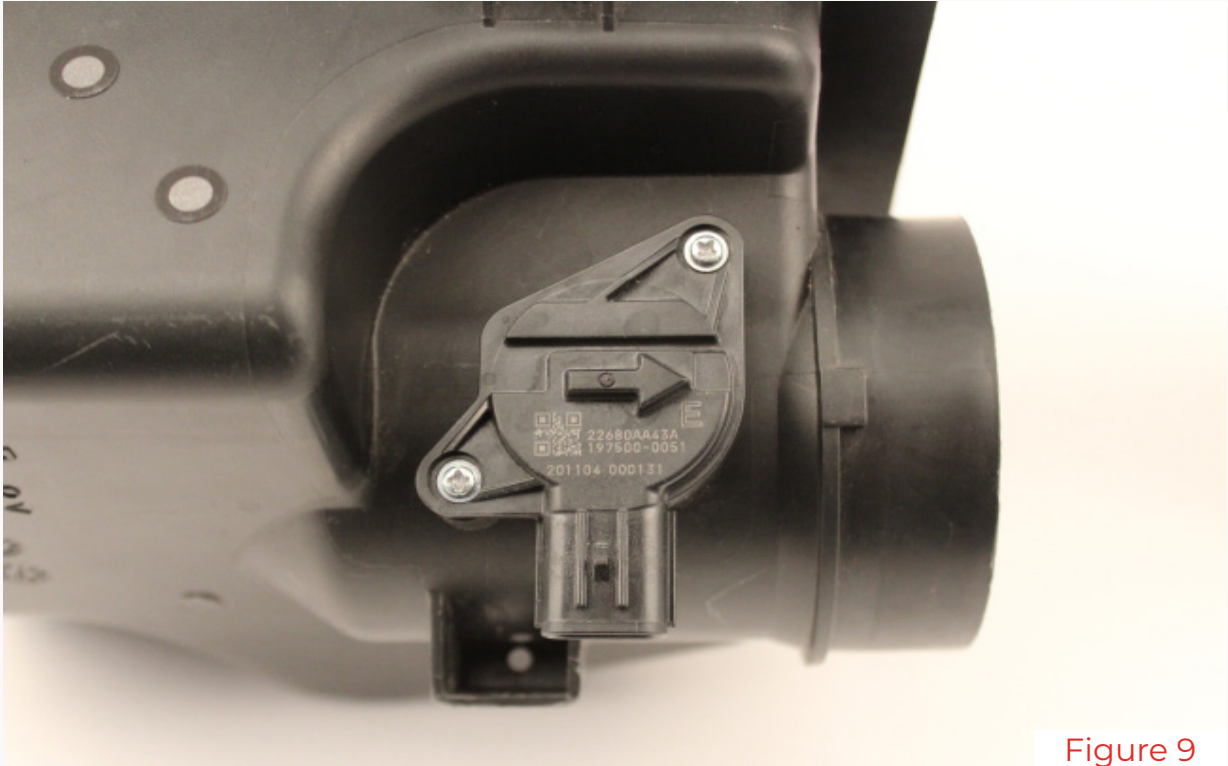

Figure 9
8. Prepare the AMS intake for install by removing the factory MAF sensor from the factory intake box. (2) phillips head screws secure the sensor to the box (Figure 9).